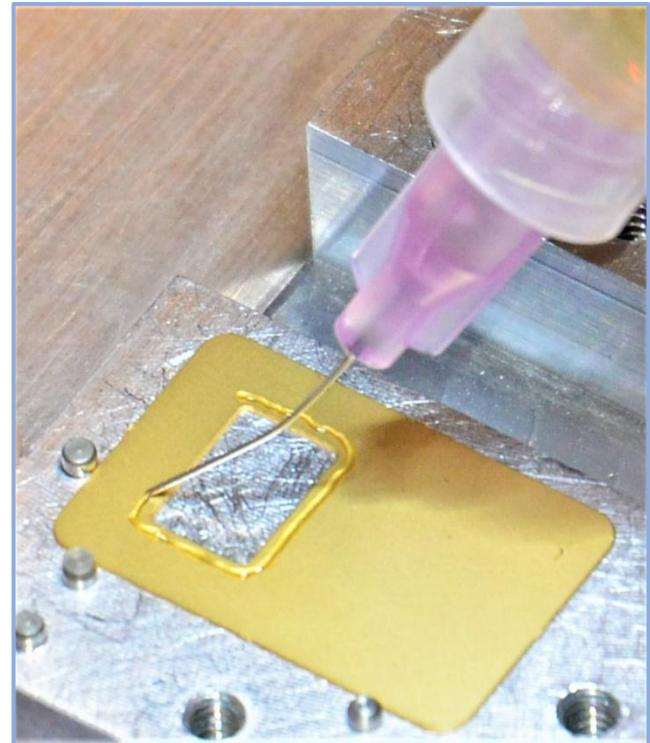
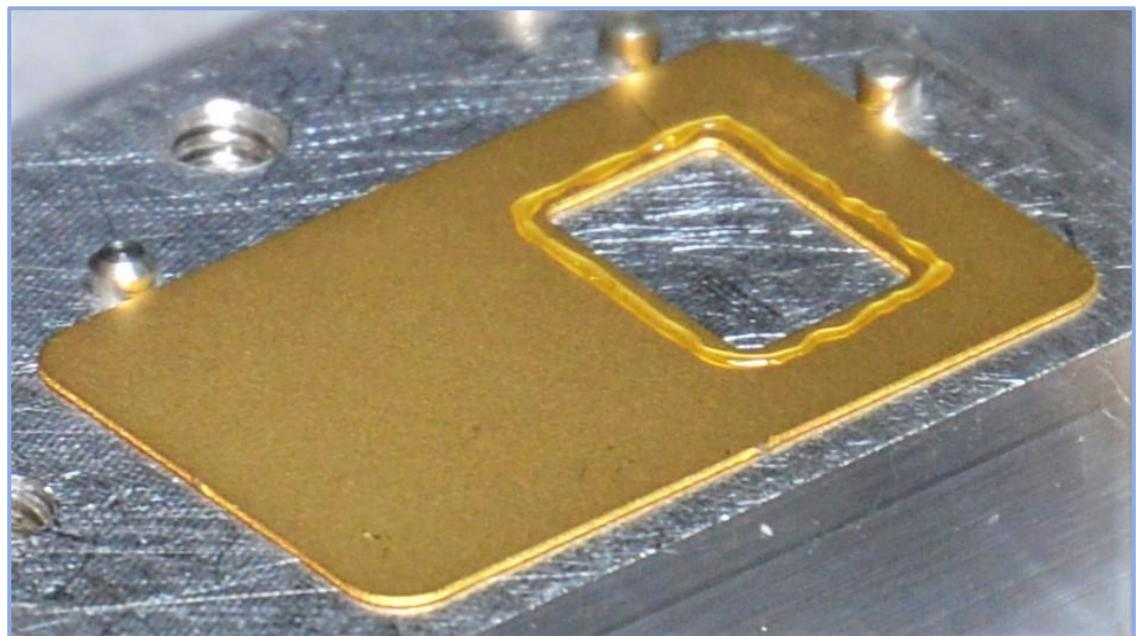

Figure 23 - Application of Epoxy to Cover
Figure 24 - Cover with Epoxy for Window
- 9.6.5.3 Apply a continuous bead of epoxy around the cutout on the first cover. Apply it so that it hugs the edge of the window area, leaving space between the epoxy and cutout only as wide (or less so) than the bead of epoxy. Refer to Figure 23 and Figure 24.